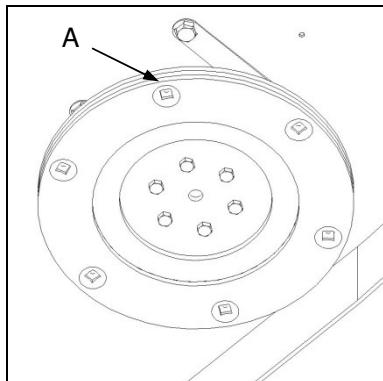

Fig. 6
- ✓ Check blade mounting holes (Fig. 6-A) for signs of wear, elongation or fractures. In the event of any observed defect do NOT attempt a repair, but immediately replace the defective disc.
- ✓ Gaan lemmonteringsgate (Fig. 6-A) na vir tekens van slytasie, rekking of breeke. In die geval van enige waargenome defek, moet NIE probeer om dit herstel nie, maar vervang die defekte skyf onmiddellik.